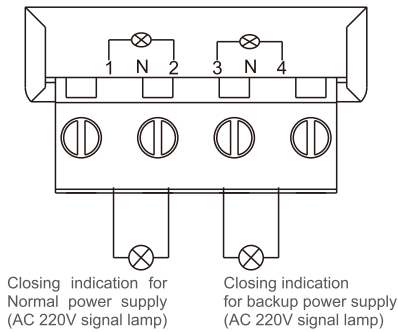

figure 4
6.3.1 Wiring diagram for the output terminal of conventional type to see figure 4